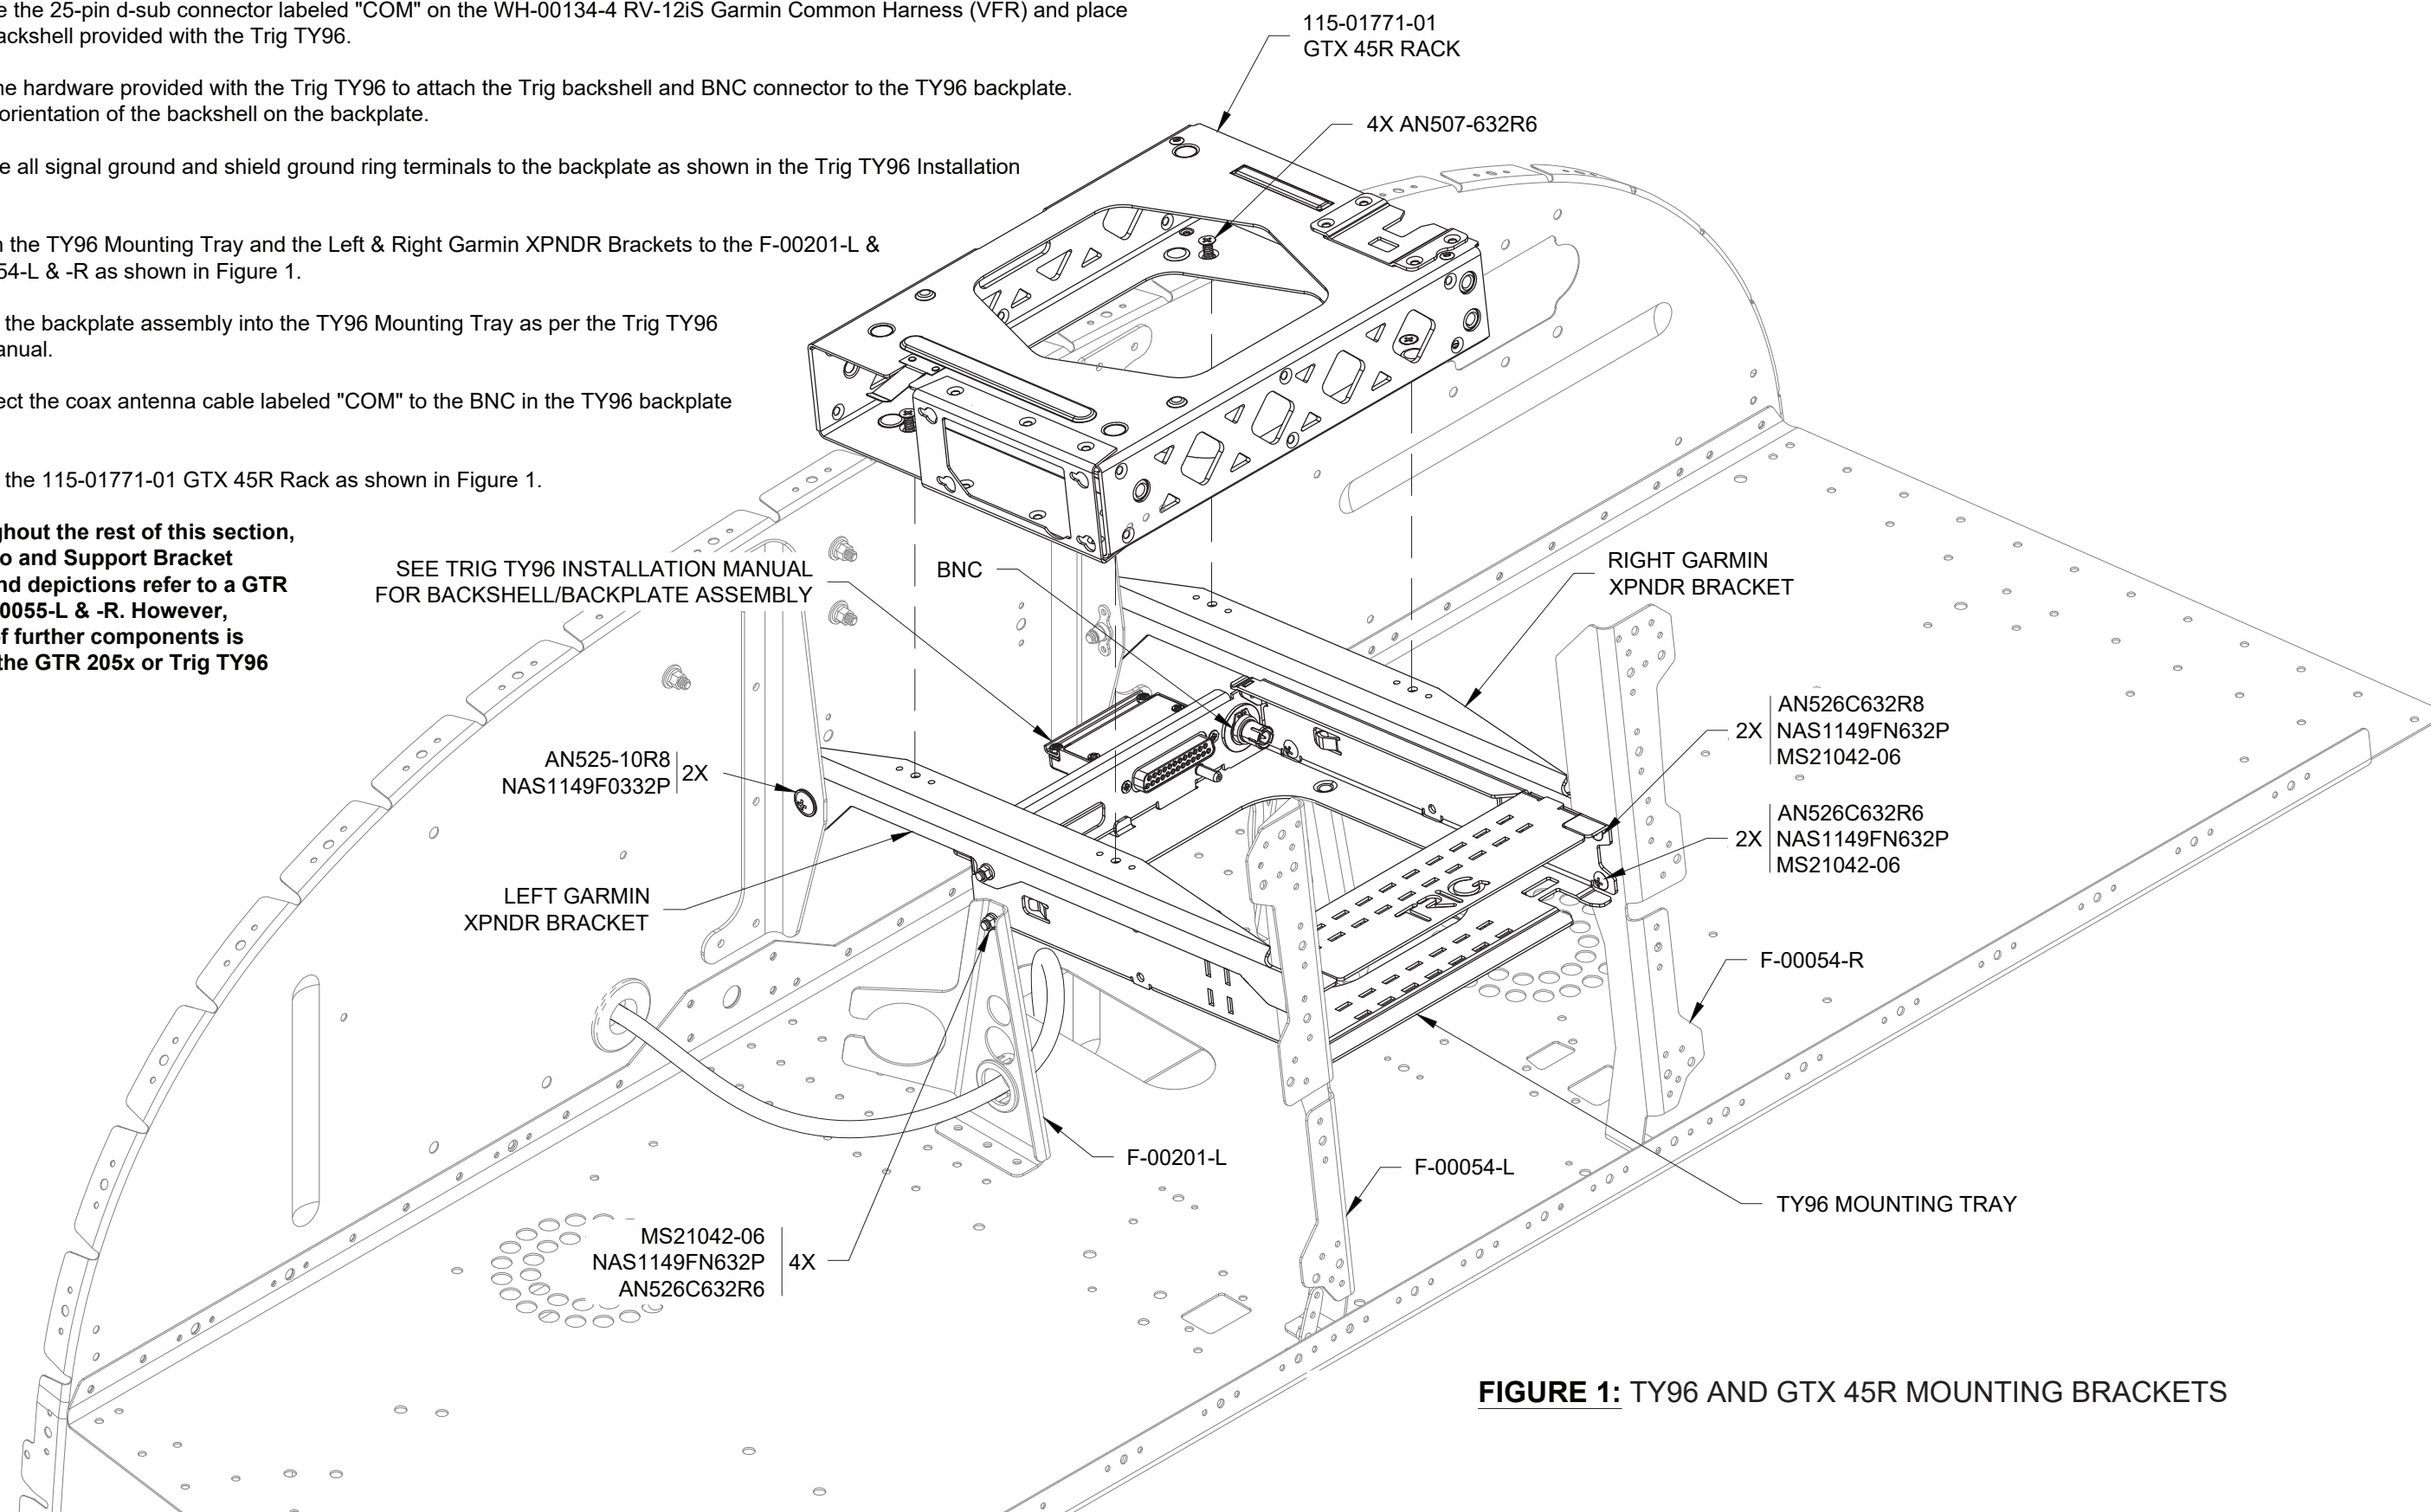

FIGURE 1: TY96 AND GTX 45R MOUNTING BRACKETS
Step 7: Install the 115-01771-01 GTX 45R Rack as shown in Figure 1.
Apply a thin smear of fuel tank sealant around the three holes called out in Figure 1.